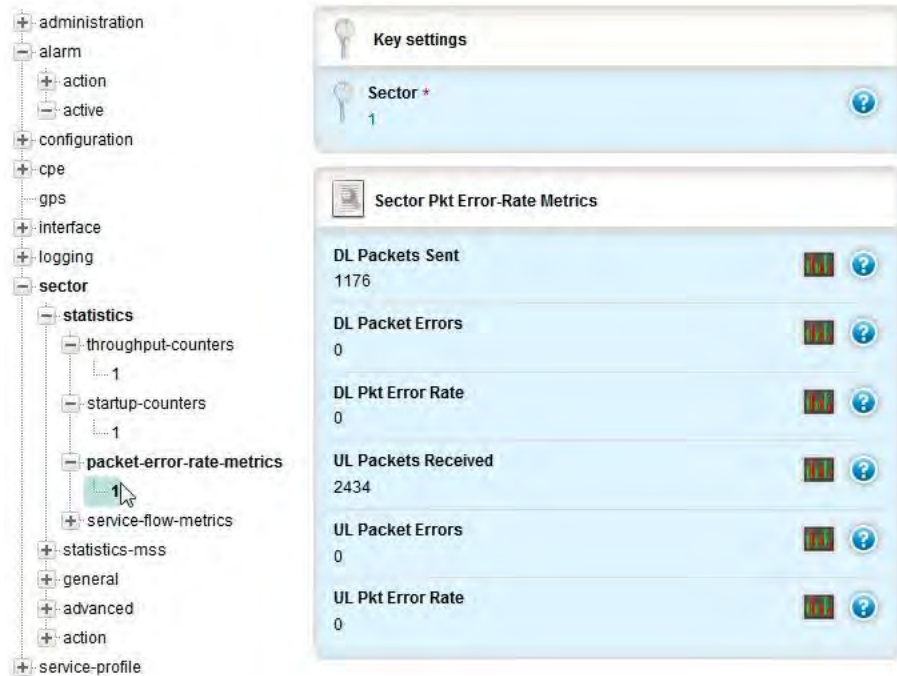

Figure 143 Sector Statistics Packet Error Rate Metrics
- For the ***packet-error-rate metrics*** menu option the following ***Sector Pkt Error-Rate Metrics*** are displayed (Figure 143):